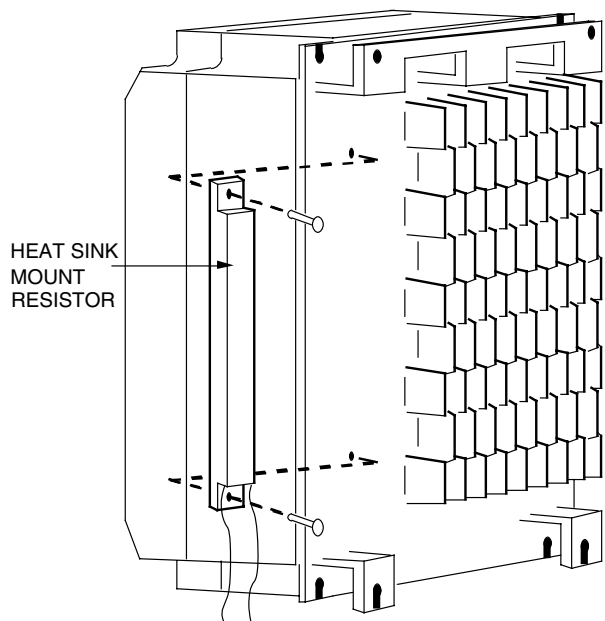

Figure A6-1. Attaching Heat Sink Mount Resistor on Heat Sink
2. Attach the Heat Sink Mount Resistor on the back of the drive's heat sink, as shown in Figure A6-1.